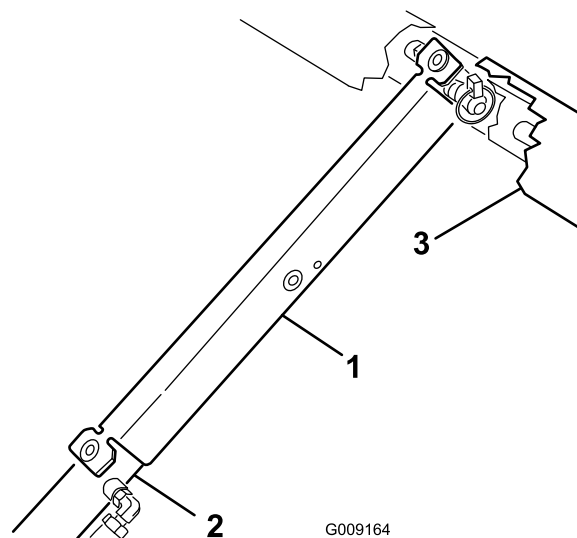

Figure 47
- Push the bed support onto the cylinder rod, making sure the support end tabs rest on the end of cylinder barrel and on the cylinder rod end (Figure 47).